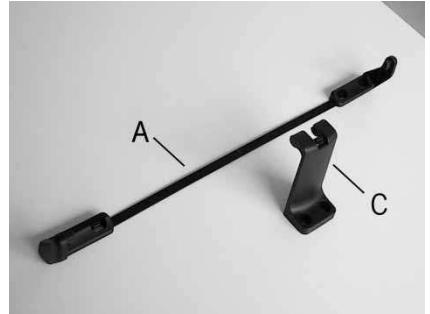

Figure 6
- C. Select the correct form of brackets (Fig. 6).